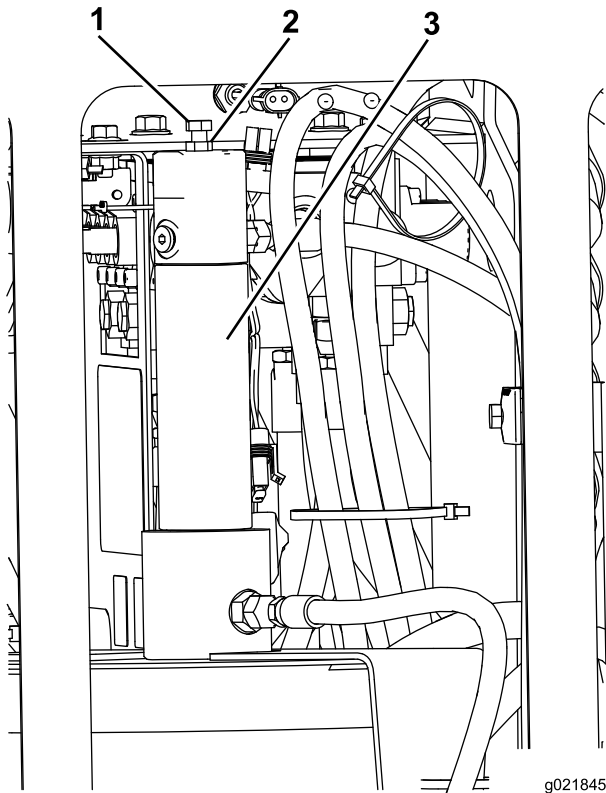

Figure 55
1. Loosen the jam nut on the adjustment bolt located on top of the TJC-applicator piston (Figure 55).